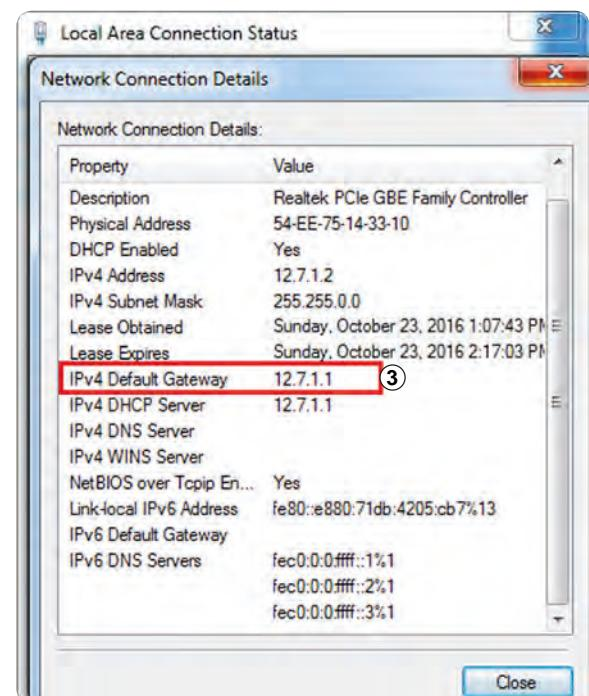

Fig. 5: Check TCP/IP properties slaves
8. Check if the connection was established successfully and note the gateway address ③ (Fig. 5).
9. Open the browser and enter the gateway address ③ into the address bar.